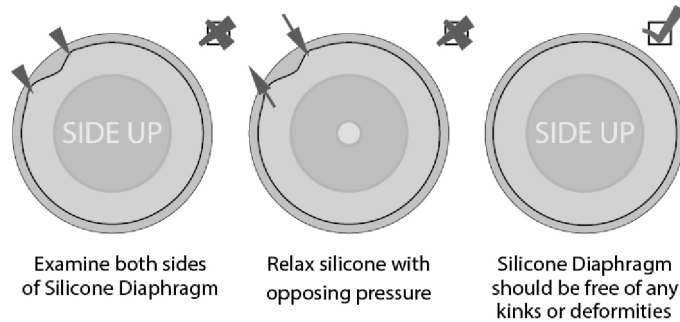

Figure D-2 Examining the Patient Circuit's Silicone Diaphragm
2. Examine the silicon diaphragm for kinks, cuts, holes, or inconsistencies in the material. See Figure D-2.